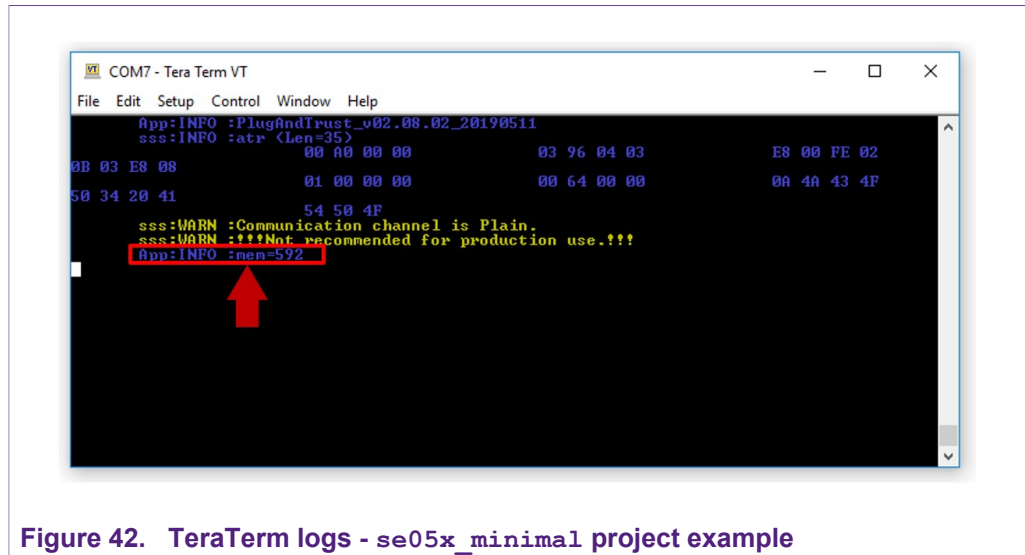

Figure 42. TeraTerm logs - se05x_minimal project example
- The project example should now be running into your FRDM-K64F. If it is running successfully, the TeraTerm logs should indicate the available memory in SE050 security IC (in this case, 592) as can be seen in Figure 42.